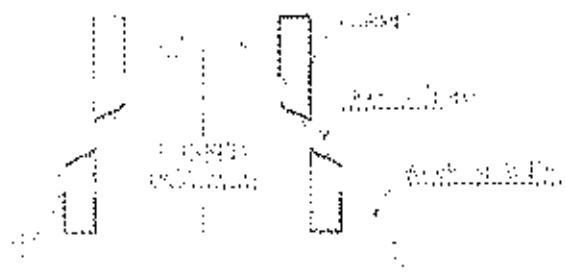

Fig. 5-3-b : Fixed Wave Spacer To Rubber Body
7. Press down the fabric-2 with roller or hammer (refer to the Fig. 5-3-b next page).